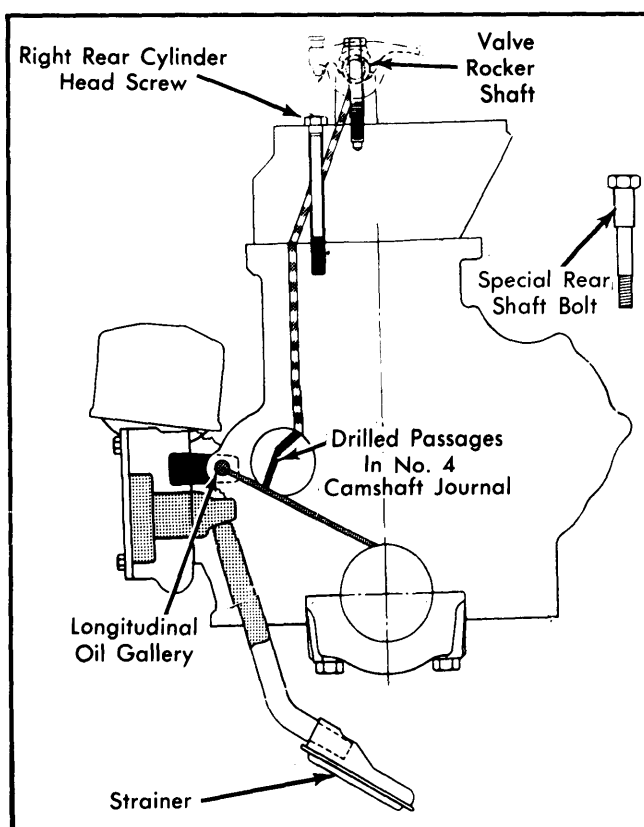

Fig. 8 Diagram of Engine Oiling Circuit
Refer to Fig. 8 and note the following:
**Crankshaft Bearings** — All main bearings are lubricated as shown in Fig. 8. Connecting rod bearings are lubricated by holes drilled in crankshaft between main and rod journals.